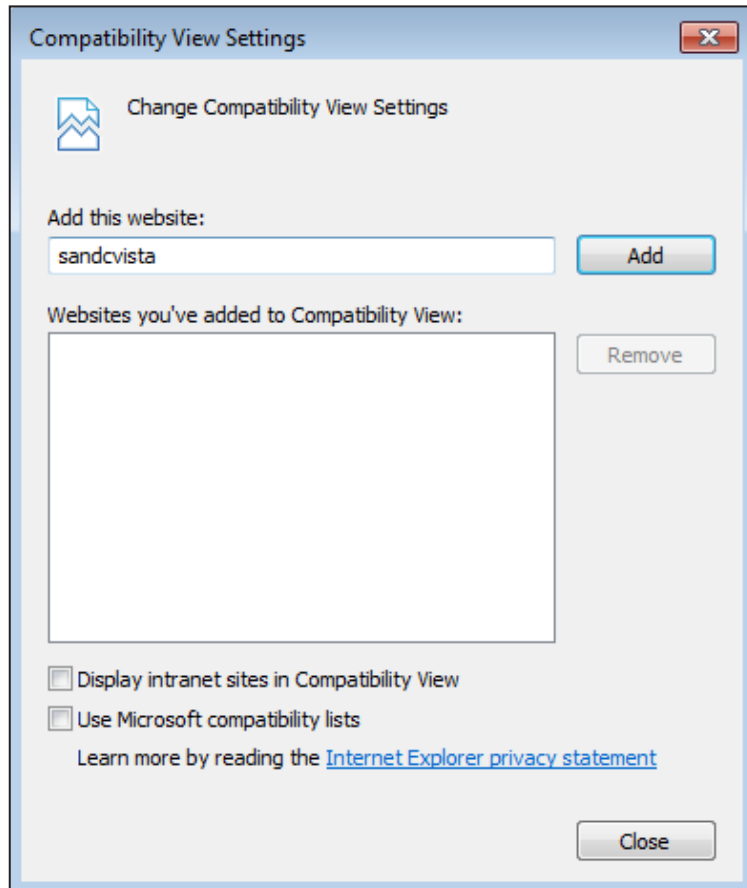

Figure 4. Uncheck “Display intranet sites in Compatibility View” from the Compatibility View Settings menu. (Microsoft Explorer 11 shown.)
STEP 2. From the Compatibility View Settings menu, uncheck the box next to “Display Intranet sites in Compatibility View.” See Figure 4.